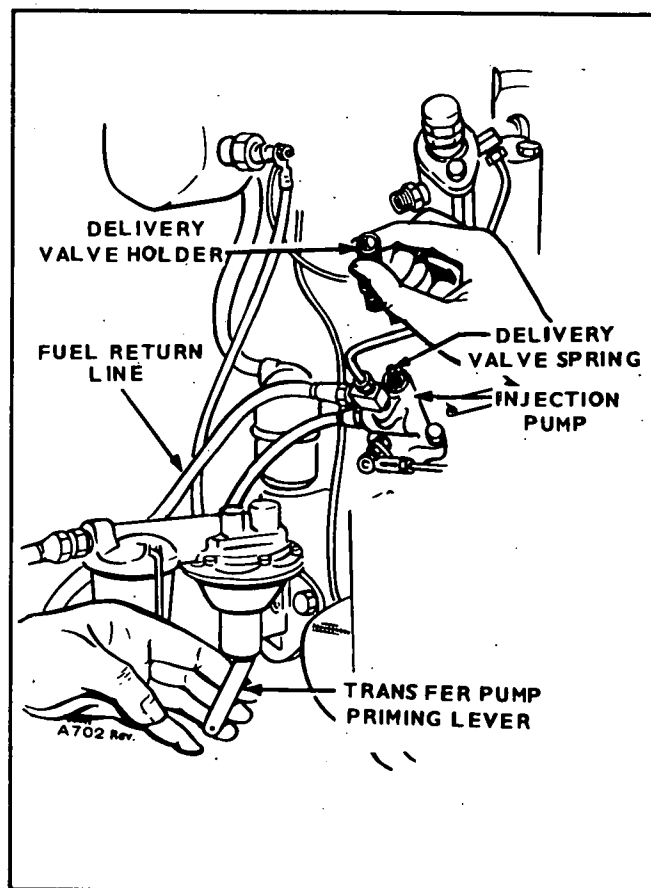

FIGURE 21. LOOSENING DELIVERY VALVE HOLDER
2. Loosen the delivery valve holder to relieve pressure on spring. See Figure 21.
3. Rotate the flywheel to about 15° before the port closing (PC) point. Blow in the pump inlet and rotate the flywheel slowly clockwise until air stops coming out of the pump outlet. This is the port closing point.